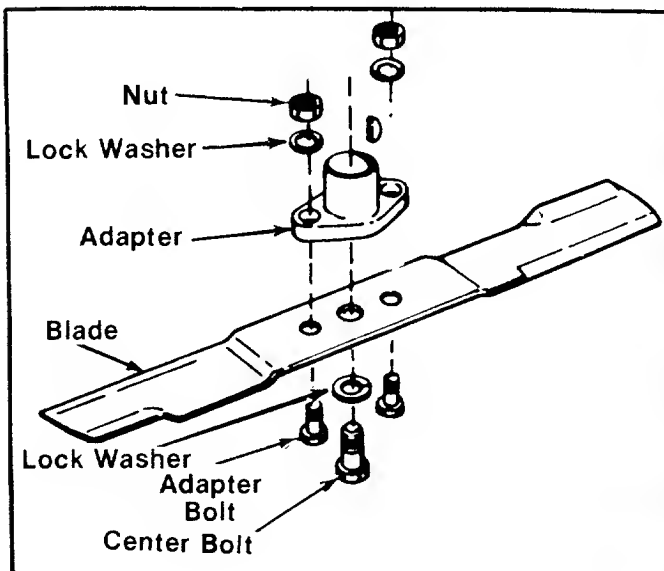

FIGURE 20. BLADE REMOVAL
1. Remove the large bolt and lock washer which holds the blade and adapter to the blade spindle. See figure 20.
Step 2. Remove the blade by removing the hex bolt in the center of the blade. Hold the blade with one hand and using a 1/2" open end, box or adjustable wrench, remove the bolt. See figure 20.
- Step 2. Remove the blade by removing the hex bolt in the center of the blade. Hold the blade with one hand and using a 1/2" open end, box or adjustable wrench, remove the nut. See figure 20.